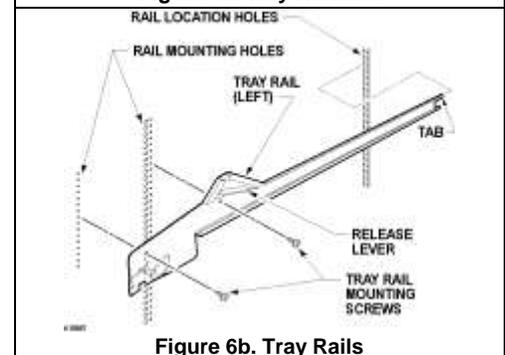

Figure 6b. Tray Rails
5. Locate the release lever on the left and right tray rails. (Figure 6b). Swing the release levers up to unlatch.
9. Pull each rail forward to disengage its rear tab from the hole in the rear wall. (Figure 6b).